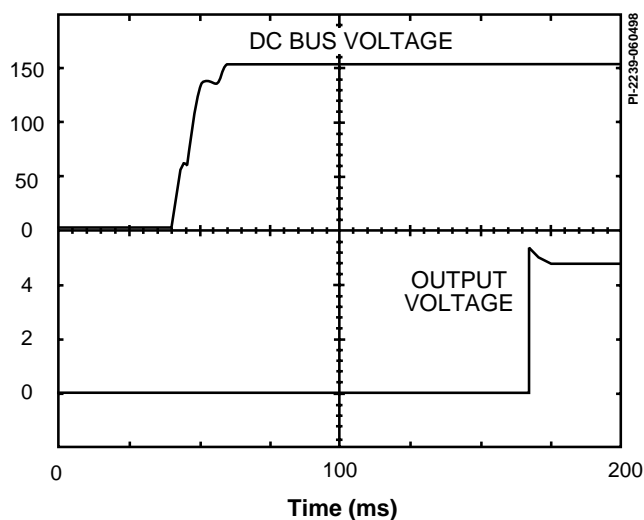

Figure 9. Turn on Delay.
Table 2. Parts List For the RD7. (\* Optional, for Css values see Figure 9. \*\*T1 is available from Premier Magnetics (714) 362-4211 as P/N TDS-1185-9818, and from Coiltronics (561) 241-7876 as P/N CTX14-14193-X1. \*\*\* TOP221G can be used with layout modifications.)
Soft start can be added to eliminate turn-on overshoot. With Css placed across VR1, the optocoupler current is increased during turn-on time. This increased current limits the duty cycle and slows down the rising output voltage (See Figure 9). The bias winding output is rectified and filtered by D3 and C6 to provide a bias voltage for U2. C5 filters internal MOSFET gate drive charge current spikes on the CONTROL pin, determines the auto-restart frequency, and compensates the control loop. Cc is needed when the supply is operating in a noisy environment (e. g. when the power supply is sharing the same input rectifier and filter capacitor with another power supply). Cc filters high frequency noise.